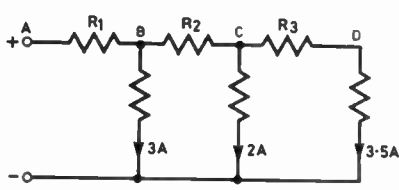

Fig. 8.8. Circuit for Problem 3.
3. Find the current in each of the resistors shown in Fig. 8.8.